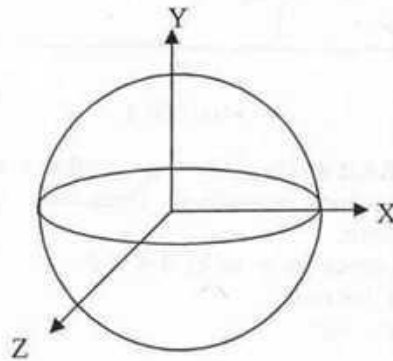

FIGURE 1
1. Determine the mass moment of inertia about Y-Y axis of the sphere shown in FIGURE 1. (10)